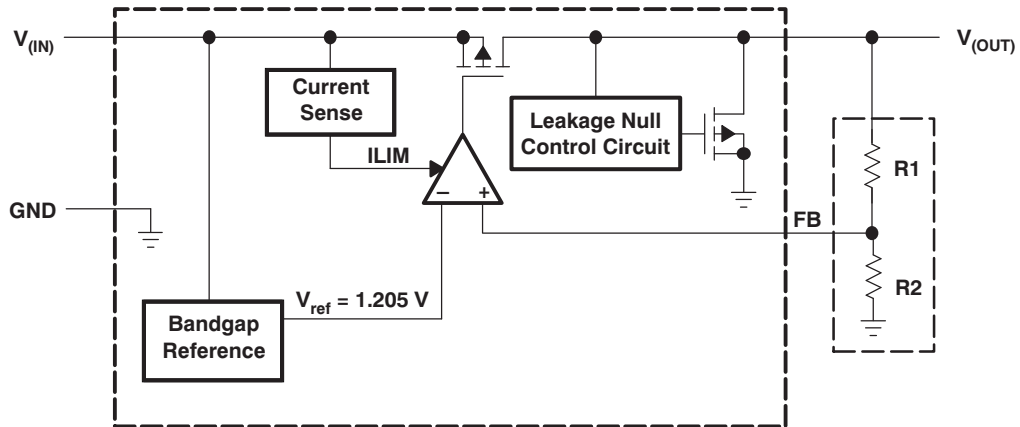

Figure 1. Functional Block Diagram—Adjustable Version
(1) Minimum $V_{IN} = V_{OUT} + V_{DO}$ or the value shown for *Input voltage* in this table, whichever is greater.
(2) See Figure 1. The TPS715xx family employs a leakage null control circuit. This circuit is active only if output current is less than pass FET leakage current. The circuit is typically active when output load is less than $5\text{ }\mu\text{A}$, V_{IN} is greater than 18 V , and die temperature is greater than $+100^\circ\text{C}$.